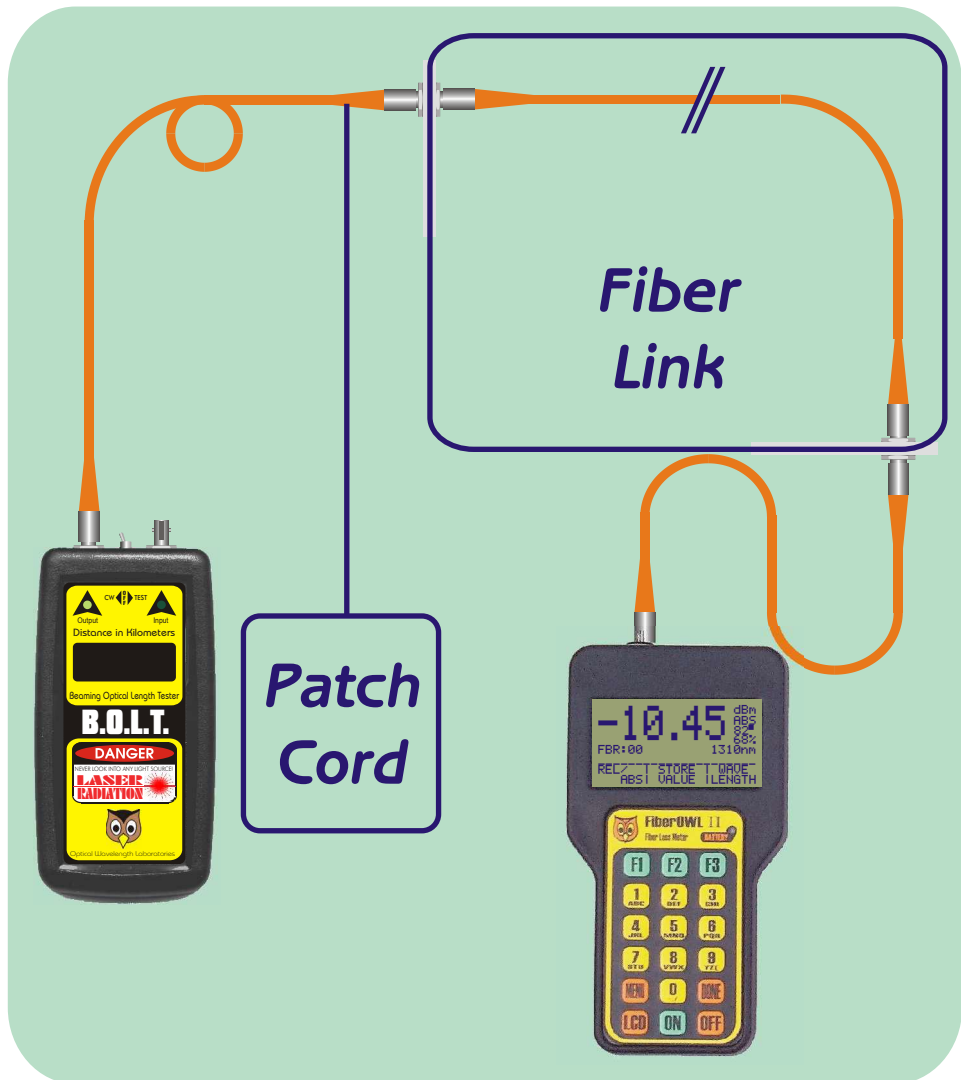

Figure 3 - Attenuation Test Configuration
**Single Mode Light Source (Figure 3 - Attenuation Test Configuration - Page 6)**
- (1) Connect the BOLT to the fiber you are testing via a patch cord as shown in Figure 3.
- (2) Connect a power meter (such as the Fiber OWL) to the other end of the fiber you are testing via a patch cord as shown in Figure 3.
- (3) Power ON the BOLT to continuous wave/light source mode by flipping the switch to the right. The display will show a series of hyphens to indicate continuous wave / light source mode. Depending upon the type of units the meter is displaying, it will display either the attenuation of the fiber, or the actual power level being received.